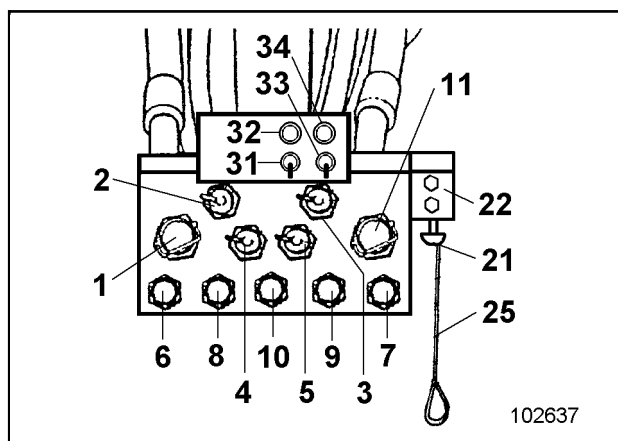

Fig. 4
Fill grease container through service station (Fig. 4).
- Switch on the display system with the toggle switch (33, Fig. 4).
- Unscrew cap of express coupling (11).
- The indicator lamp (34) lights up when the grease container is full.